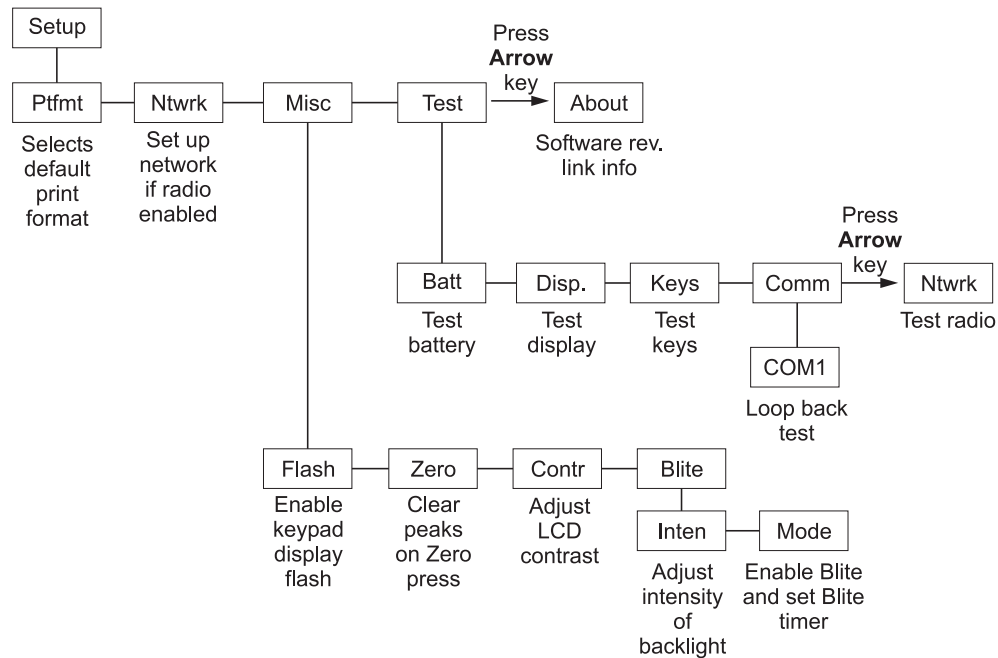

Figure 9
- Setup** Accesses the Setup menu shown in Figure 9.